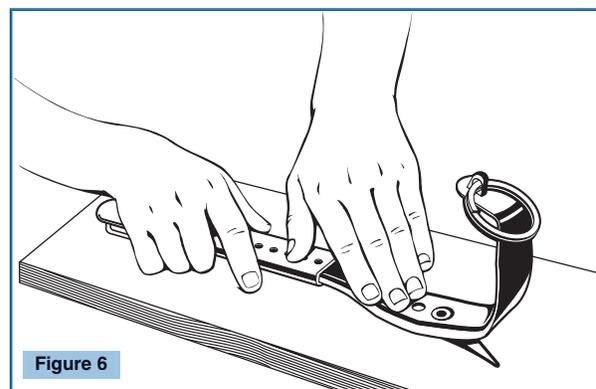

Figure 6
**Step 1:** Place climber with gaff pointing downward and upper strap loop resting against a horizontal board or pole. Hold the leg iron parallel to the wood surface with the stirrup vertical. Push the climber horizontally in the direction of the gaff without any downward pressure except the weight of the climber. (See Fig. 6)